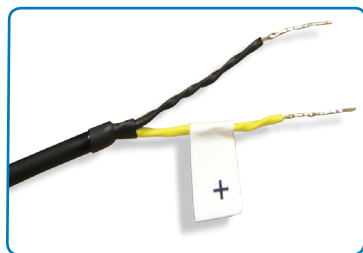

Figure 12
- Negative lead is not marked (Figure 12)